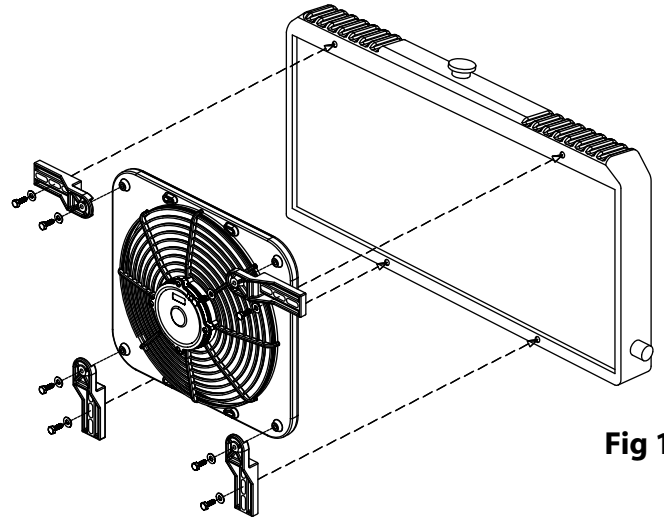
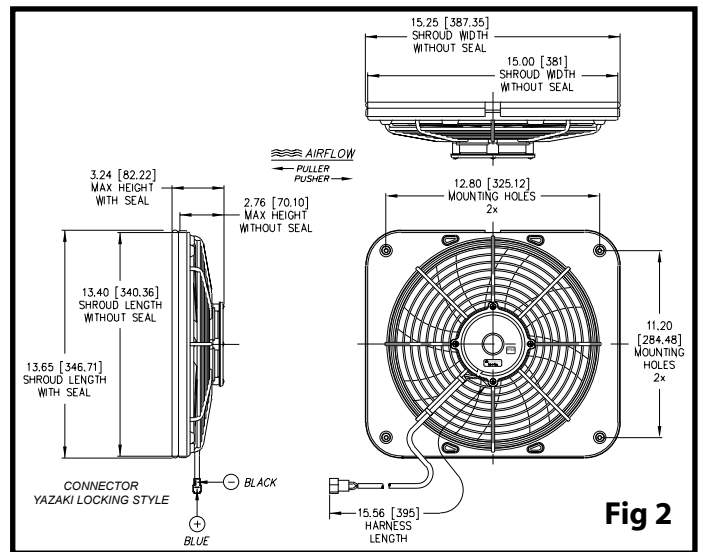

Fig 1
Fig 2
2. We do not recommend the use of nylon tie kits or any other "through core" mounting methods for this fan assembly. The 130 watt motors used in this fan assembly is too heavy and produce too much starting torque to be supported by the radiator fins. We recommend purchasing a prefabricated mounting kit **MARADYNE® MFA107** or fashioning metal brackets that will attach to at least four of the six 1/4 - 20 nylon reinforced nuts pressed in the back of the shroud and then bolted to the U-channels of the radiator/heat exchanger (See Fig 1.). 1" X 1/4-20 bolts are recommended to attach the brackets to the shroud. Bolts must **NOT** be long enough to contact the radiator/heat exchanger. See Fig 2 for bolt pattern.